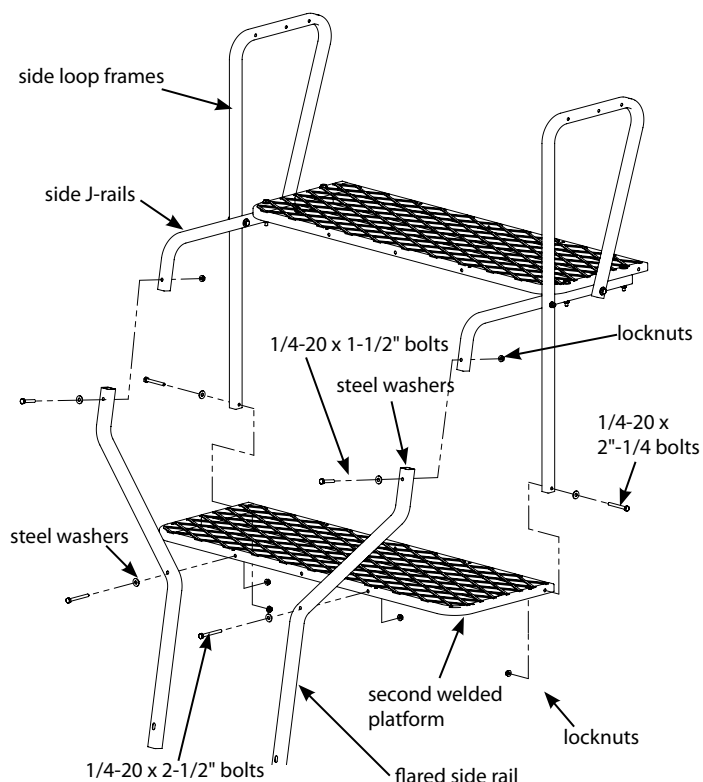

Figure 2
3. Slide the (2) flared rails (411020) over the previously assembled ladder side J-rails and secure together using (2) provided 1/4-20 x 1-1/2" bolts, locknuts and steel washers. **SEE FIGURE 2.**
4. Attach the second welded platform frame (411021) to the flared side rails and both side loop frames using (2) provided 1/4-20 x 2-1/4" bolts, (2) 1/4-20 x 2-1/2" bolts, (4) locknuts and (4) steel washers. **SEE FIGURE 2.**